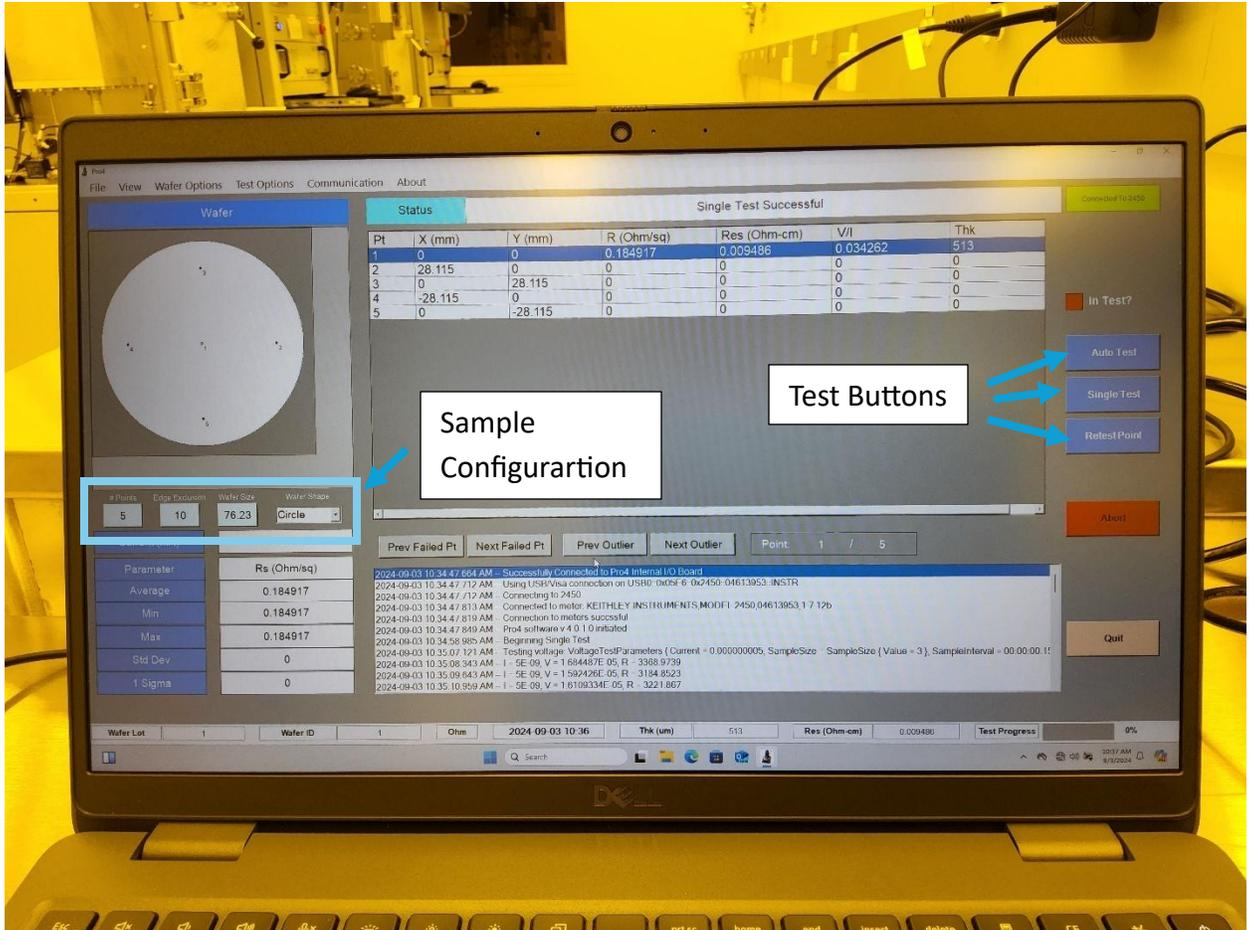

Figure 2.
1. The software screen of the system is shown in Figure 2. The first step is to configure the software for the sample being tested. Enter the number of test points, edge exclusion, sample size and shape into the boxes in the sample configuration area of the screen.